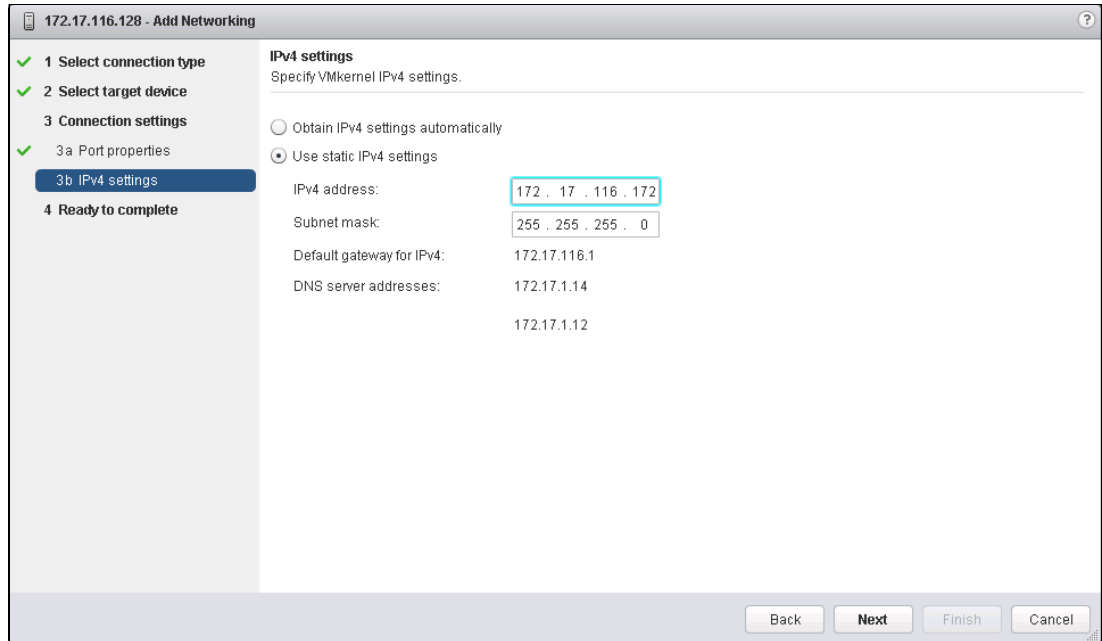

Figure 5-24 Enter an iSCSI network IP
6. Enter an IP address for your iSCSI network. Use a dedicated network for iSCSI traffic (see Figure 5-24).